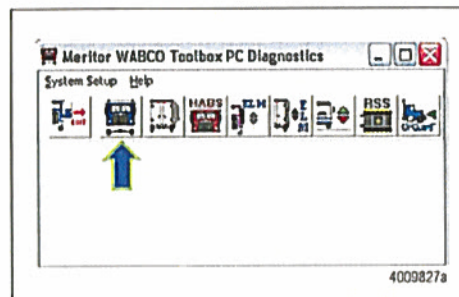

Figure 1
2. Launch the Meritor WABCO TOOLBOX® Diagnostic Software and click on the Pneumatic ABS Icon for Truck, Tractor and Buses. Figure 1.
- Launch the Meritor WABCO TOOLBOX® Diagnostic Software and click on the Pneumatic ABS Icon for Truck, Tractor and Buses. Figure 1.